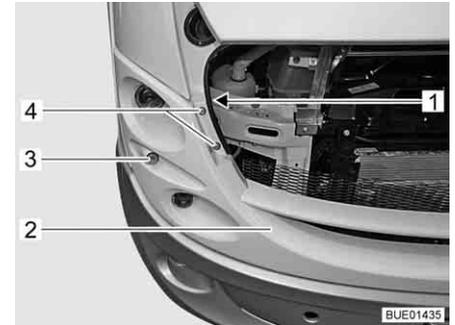

Fig. 291 Plastic apron with lights
- Unscrew and remove screw (Fig. 291,1) with washer.
- Holding the plastic apron (Fig. 291,2) at the side, carefully pull it a little bit forwards until the lamp housing is accessible.
- Remove the lamp housing of the parking light (Fig. 291,3) with the lamp.